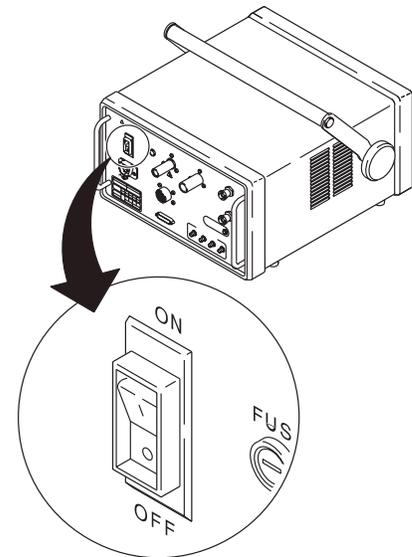

Figure 8 Turning the Power Supply ON
5. Turn the power ON. See Figure 8.